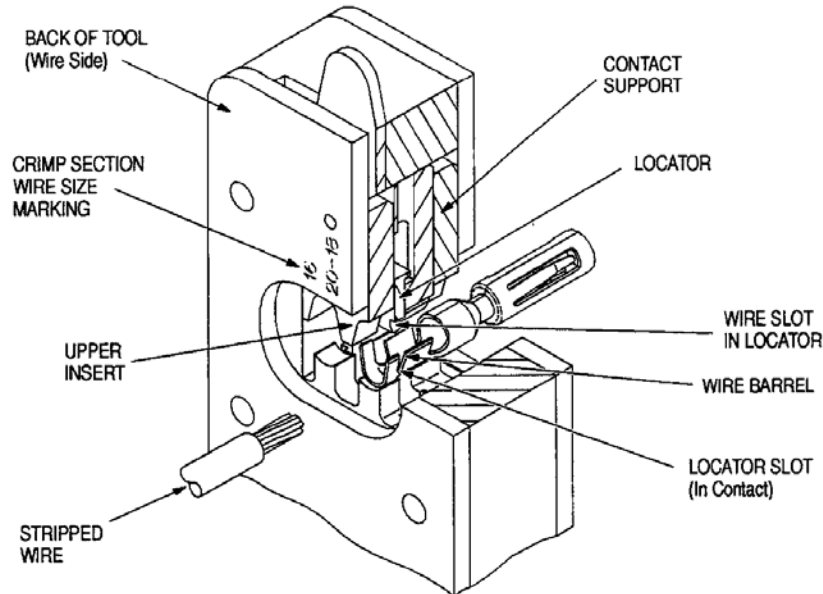

Figure 3
1. Hold tool so BACK side (wire side) faces you. See Figure 3.